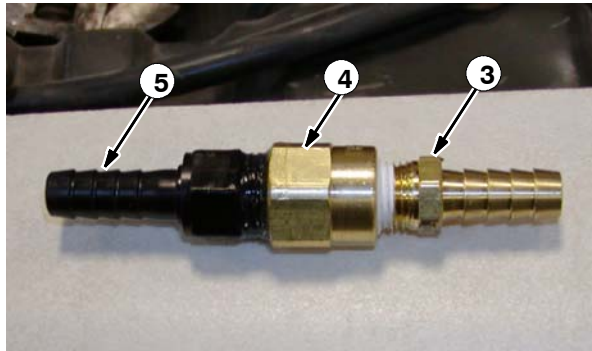

**FIG. 11**
34. Drill two 17/64" holes into the fan shroud. Refer to Fig. 11.